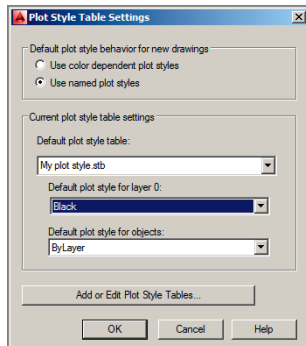

FIGURE 14.4 Configuring the default plot style behavior and settings for new drawings
2. Click the Plot Style Table Settings button in the lower right of the Options dialog box. Select the Use Named Plot Styles radio button in the Plot Style Table Settings dialog box that appears. Select My plot style.stb from the Default Plot Style Table drop-down menu. Select Black from the Default Plot Style For Layer 0 drop-down menu. Select ByLayer from the Default Plot Style For Objects drop-down menu if it is not already selected (see Figure 14.4). Click OK, and then click OK again to close both of the open dialog boxes.